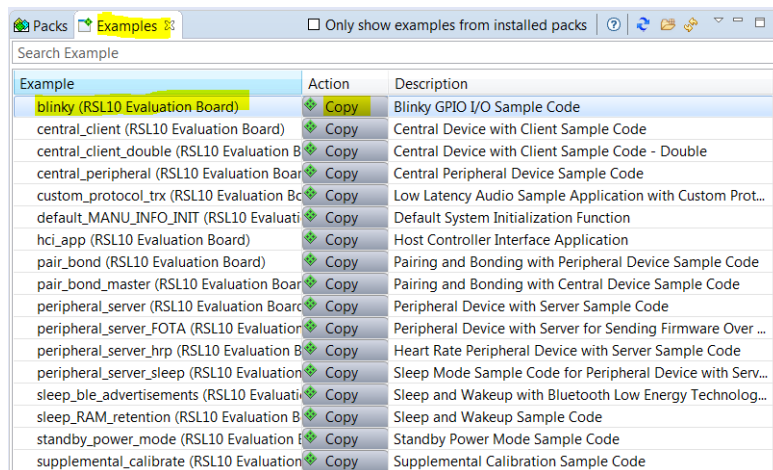

Figure 6. Pack Manager Perspective: Examples Tab
2. Choose the example project called *blinky*, and click the **Copy** button to import it into your workspace (see Figure 6 on page 10).